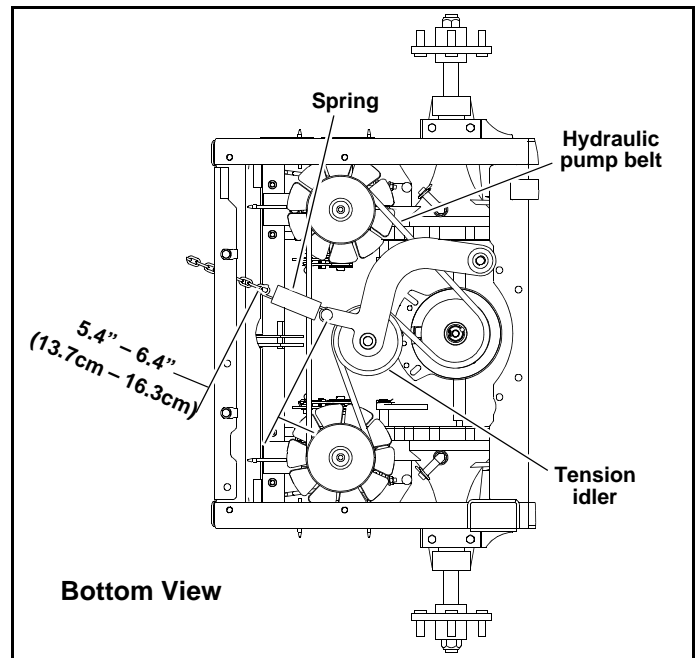

Figure 4-6
**NOTE:** When engaged the spring should be extended to a dimension of 5.4" – 6.4" (13.7cm – 16.3cm). Figure 4-6